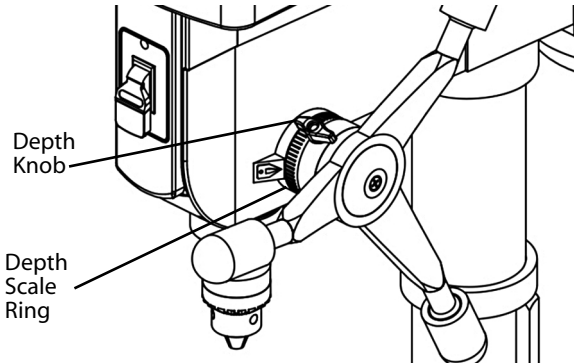

Figure 20 - Feed depth adjustment.
- Turn the depth scale ring to the desired depth, lock the scale ring in place with the depth knob (Figure 20).